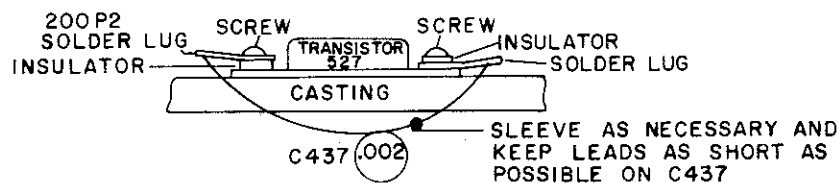

FIG 1
1. Solder C437 in circuit as shown in Fig. 1.